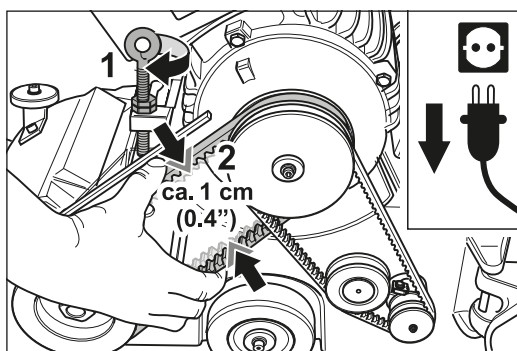

Fig. 93 Tension the drive V-belt by turning the eye bolt at the motor clockwise (1).
- 4 Tension the drive V-belt for the sanding drum by turning the eye bolt at the motor clockwise (fig. 93, 1).
The slack on the V-belt should be approx. 1 cm (0.4") if compressed with normal effort (fig. 93, 2).